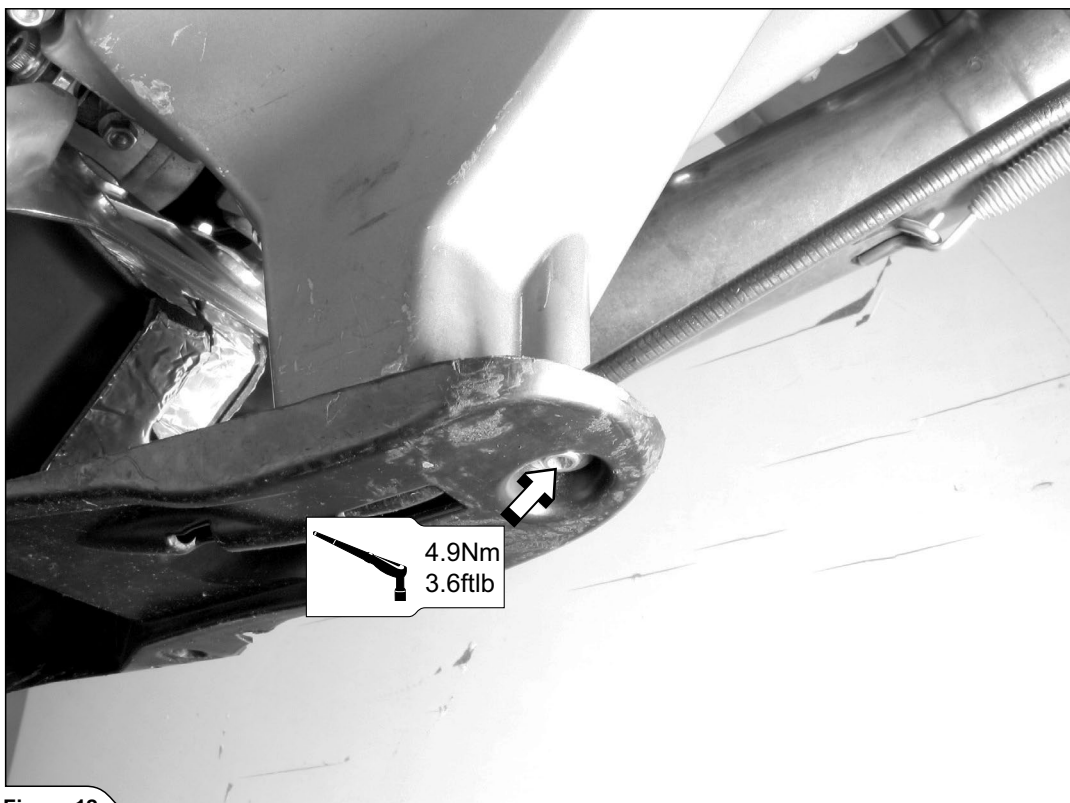

Figure 12
8. Tighten the plastic protection back onto the oil sump (Figure 12).